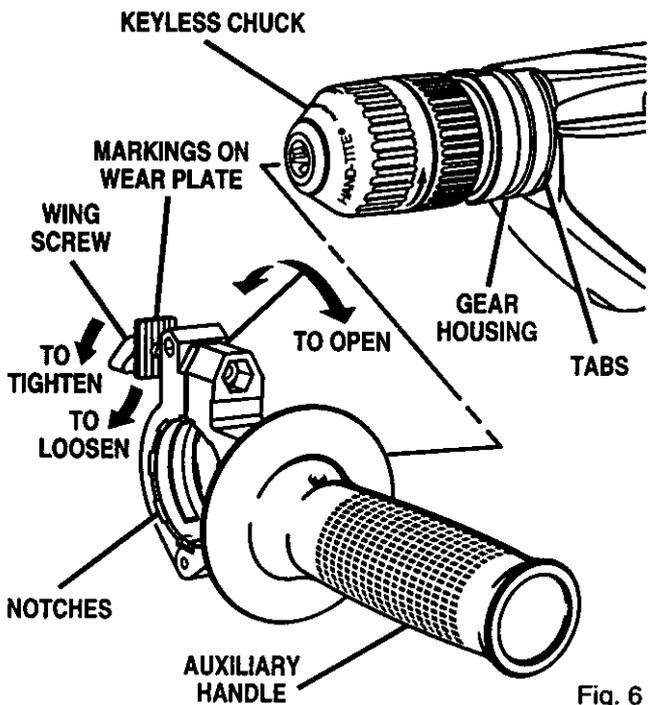

Fig. 6
See Figure 6.
**Note:** If wing screw and wear plate is removed from auxiliary handle, when reassembling, the markings on the wear plate must be positioned as shown in figure 6. This prevents the depth gage rod from slipping. See Figure 9.